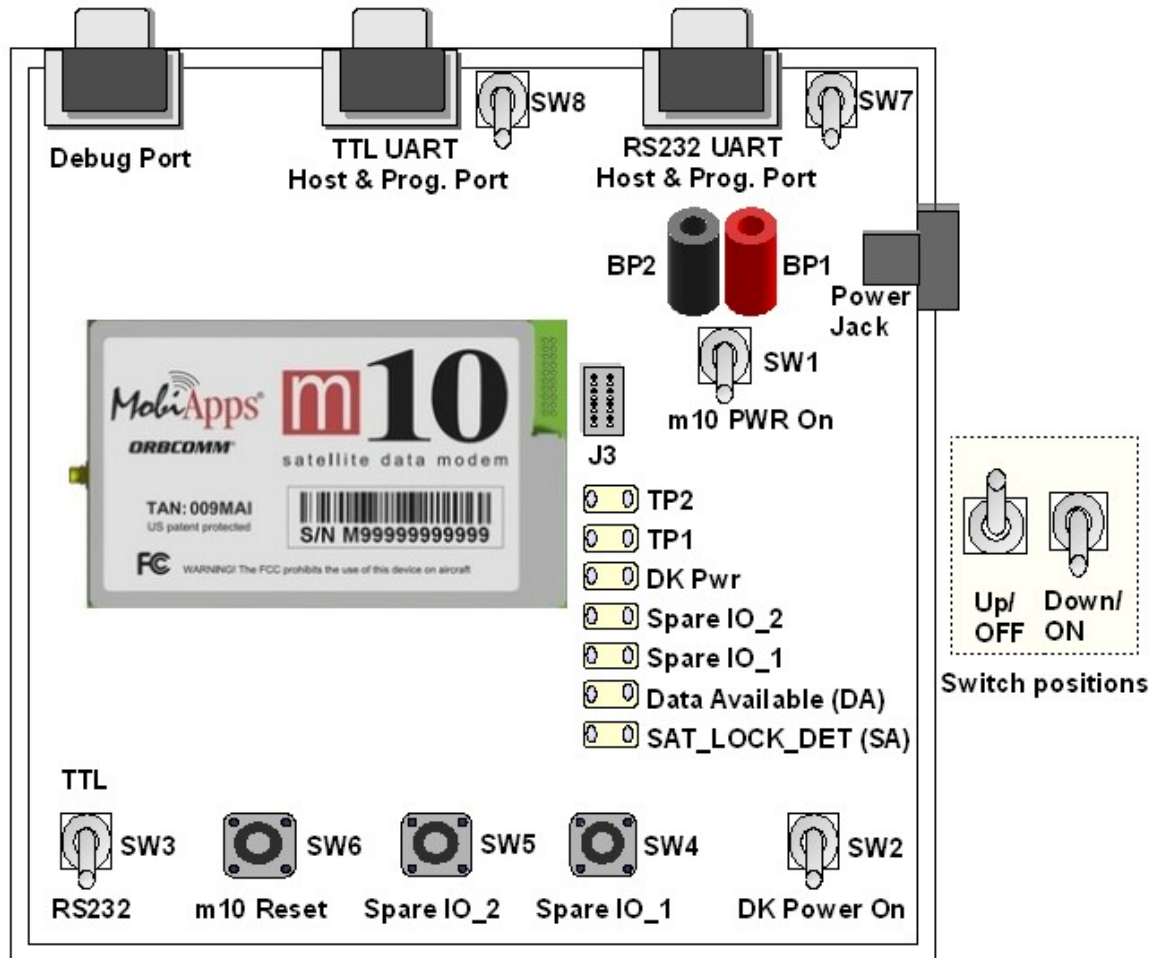
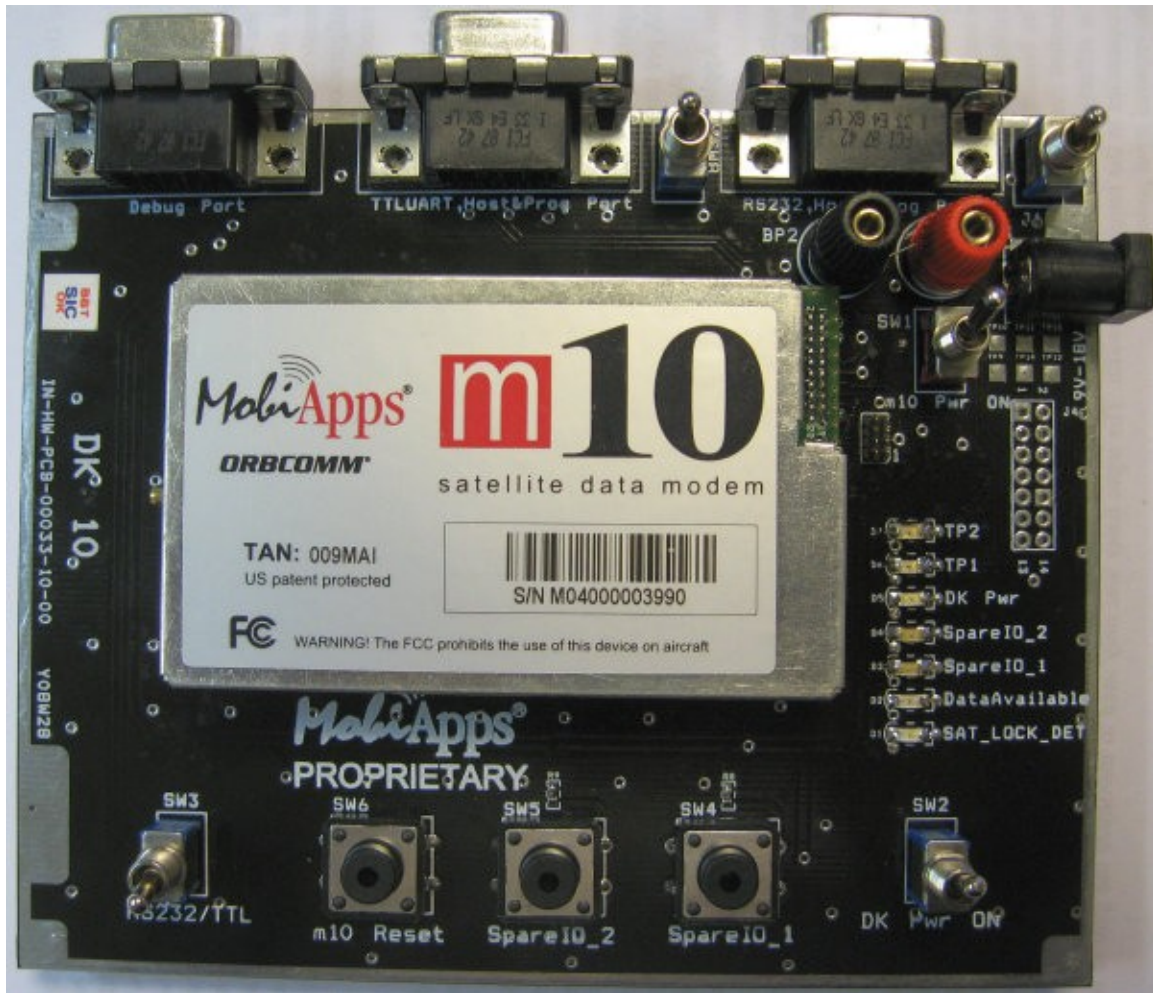

Figure 15: Layout of the DK10
Figure 16: DK10 with the m10
The DK10 board (see Figure 15 and Figure 16) provides users with an easy way to evaluate or start using the m10.
- **SW3:** This switch is for selecting RS232 level or TTL level UART interface for the host port. If the connection is through the RS232 UART Host & Prog. Port, then this switch (SW3) should be set towards the RS232 position (see Figure 15) and vice-versa.
- **SW7:** This switch is used to short (down position, as shown in Figure 15) the RTS / CTS for the RS232 UART & Prog. Port.
- **SW8:** This switch is used to short (down position, as shown in Figure 15) the RTS / CTS for the TTL UART & Prog. Port.
**If the DK10 is connected using a PC, then the toggle switches on the DK10 should be in the down position (see Figure 15) by default.**